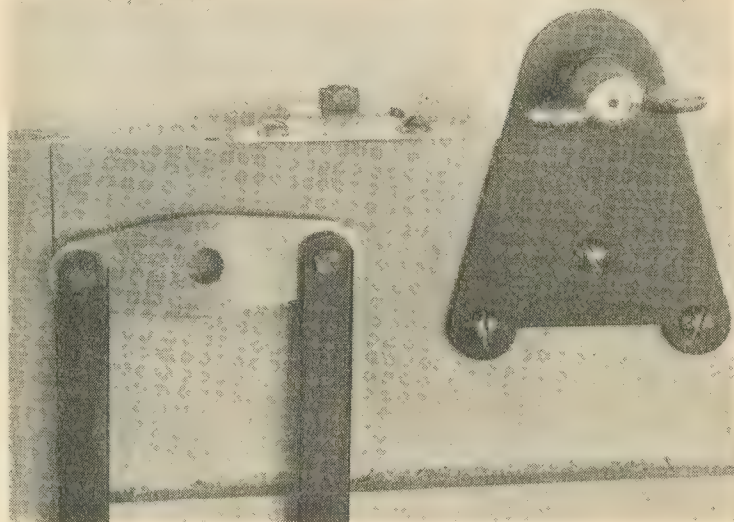

Fig. 4. The attachment bracket and the link bar with the upper connecting-arms
#### The Link Bar (B) and the Upper Arms—Figs. 4 and 5